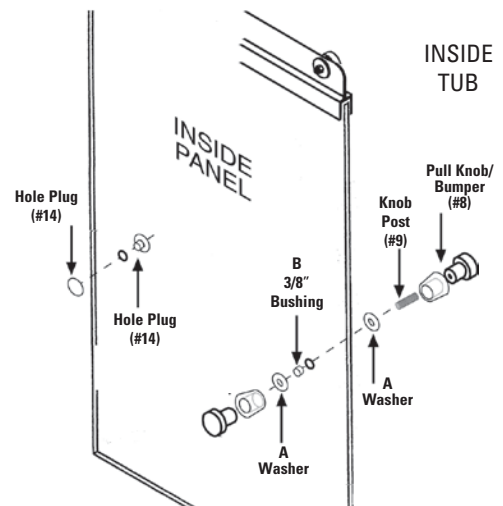

Figure 9B
- H. To install the Back-to-Back Barrel Knob with Recessed Finger Pull (#8), refer to Figure 9B as you attach the Barrel Knob with Recessed Finger Pull (#8) on the Inside Door Panel (#6).